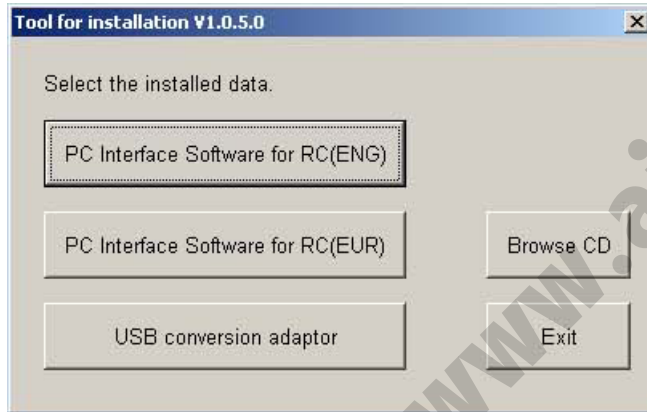
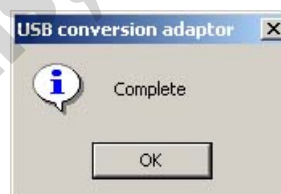

Fig. 1.12 Installed Data Selection Window
Fig. 1.16 Complete Window
- [2] The installed data selection window (Fig. 1.12) will be displayed.
- [5] The complete window (Fig. 1.16) will be displayed.
- [6] Once the complete window (Fig. 1.16) has been displayed, click **OK**. The complete window (Fig. 1.16) will disappear. Then, click **Cancel** on the window to specify the folder of the copy destination (Fig. 1.13). The window to specify the folder of the copy destination (Fig. 1.13) will disappear. Finally, click **Exit** on the data selection window (Fig. 1.12). The data selection window (Fig. 1.12) will disappear.